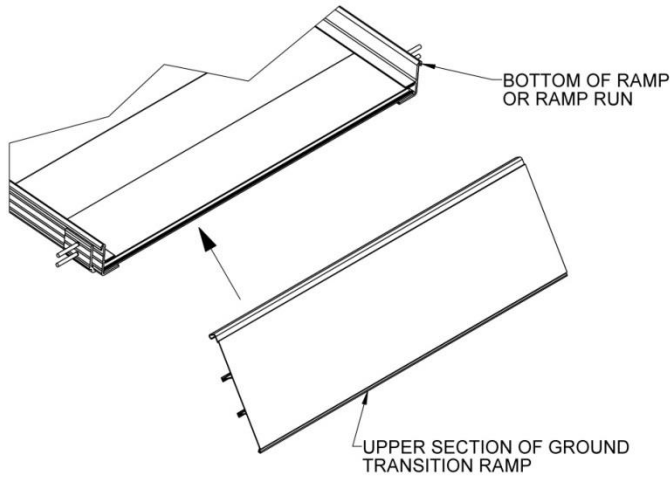
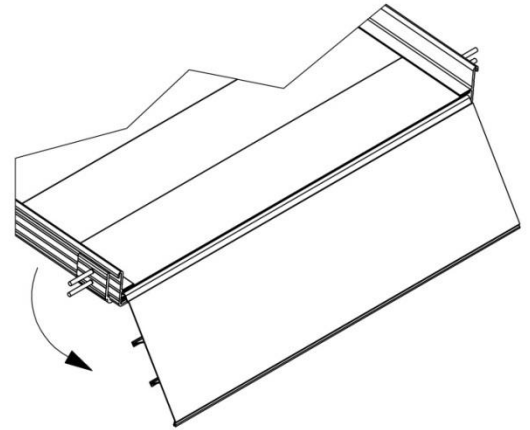

FIG. 3.9
FIG. 3.10
3.4.2. Lift the lowest end of the ramp/ramp run and bring the upper section PRGT into the ramp end tread until the “hook” is engaged FIG. 3.9), then rotate into place (FIG. 3.10) and set back on the ground.